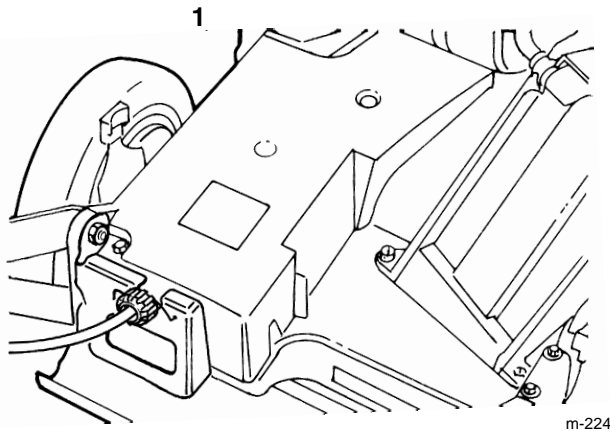

Figure 20
2. Remove the bolts securing the belt cover (Fig. 20) to the mower housing and lift off the cover.